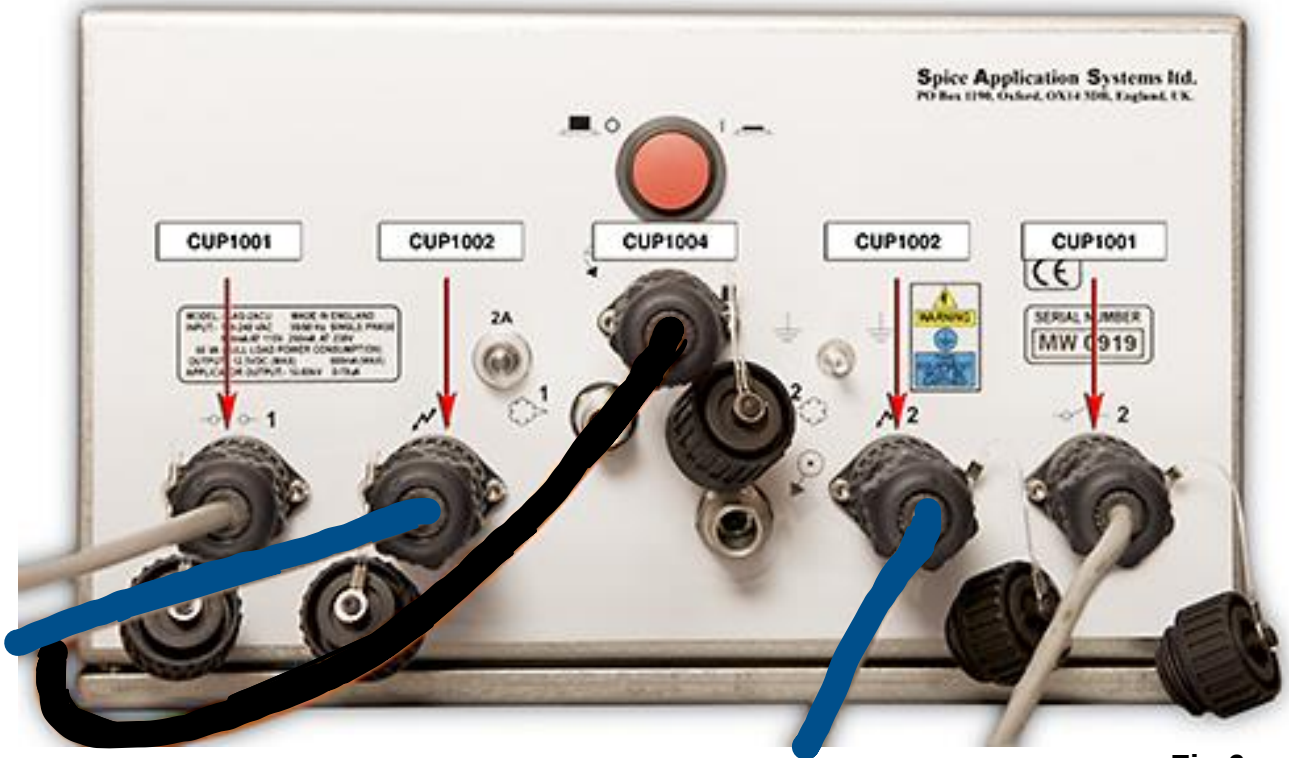

Fig 6
13. If not using, make sure the dust caps are fitted and locked into place on the underside of the SAS Controller. (see Page 14 - Fig 6)